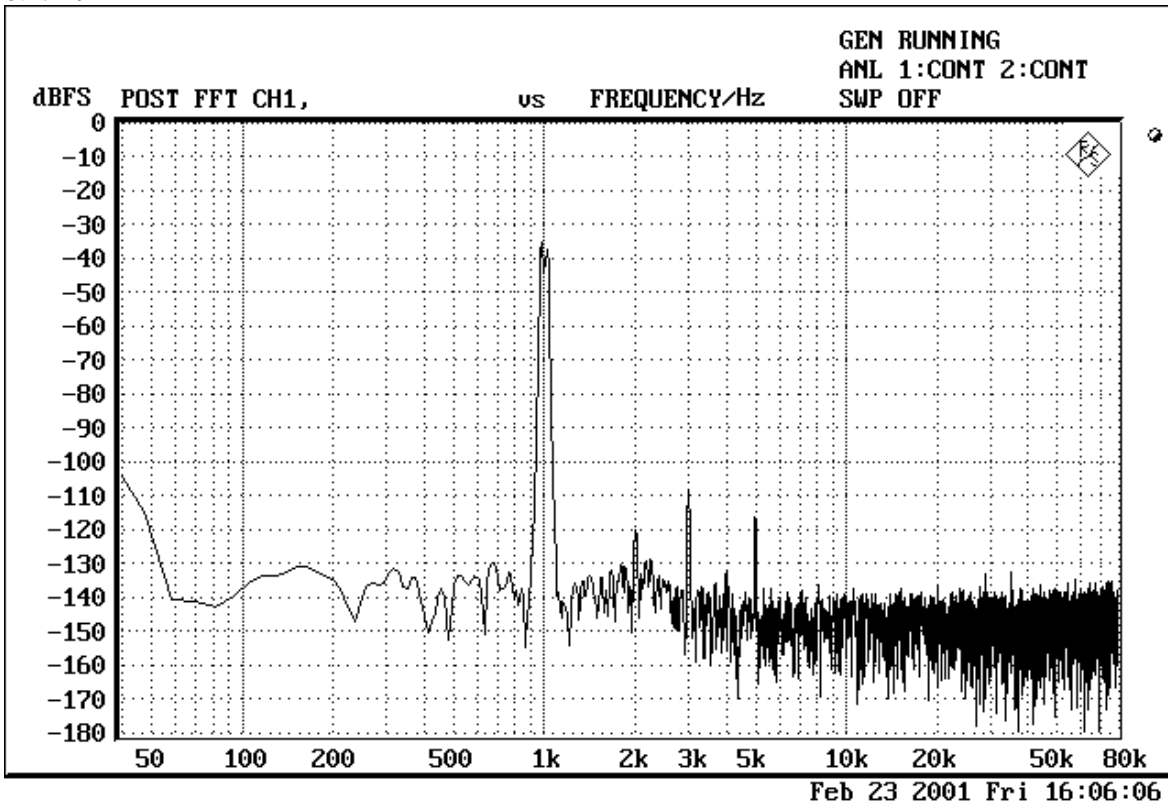

Figure 2-1-1. FFT (1kHz, -1dB input)
- Figure 2-1-1. FFT (1kHz, -1dB input)